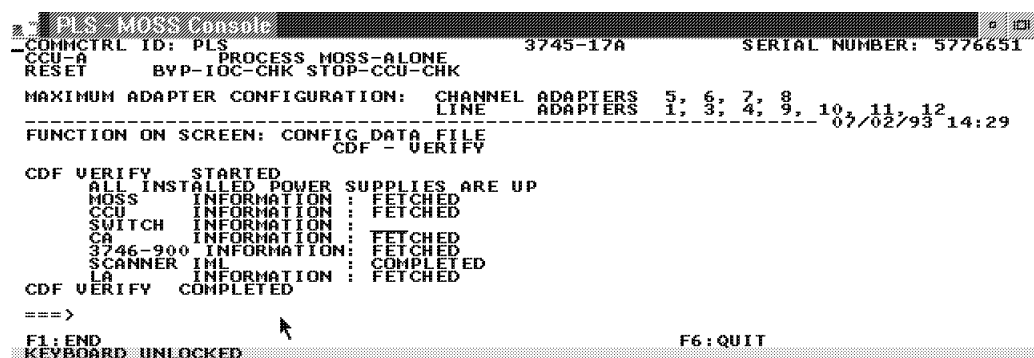

Figure 7-3. CDF Verify MOSS Menu
**Note:** If you get the following message *Warning: a change in 3746 presence status has been made. 3746-900 has been installed* enter **2** to continue the process and record the 3746-900 presence. Wait for the message "CDF VERIFY COMPLETED" (see Figure 7-3).